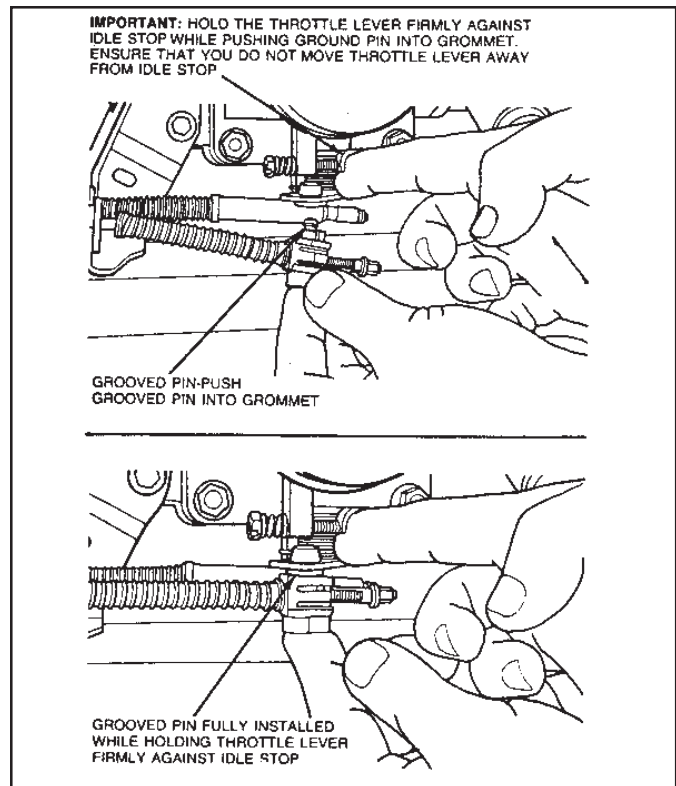

Figure 23
6.5 While holding throttle lever firmly against its idle stop, push grooved pin into grommet on throttle lever as far as it will go. NOTE: While pushing pin into grommet, make sure you do not move throttle lever away from idle stop. (See Fig. 23.)